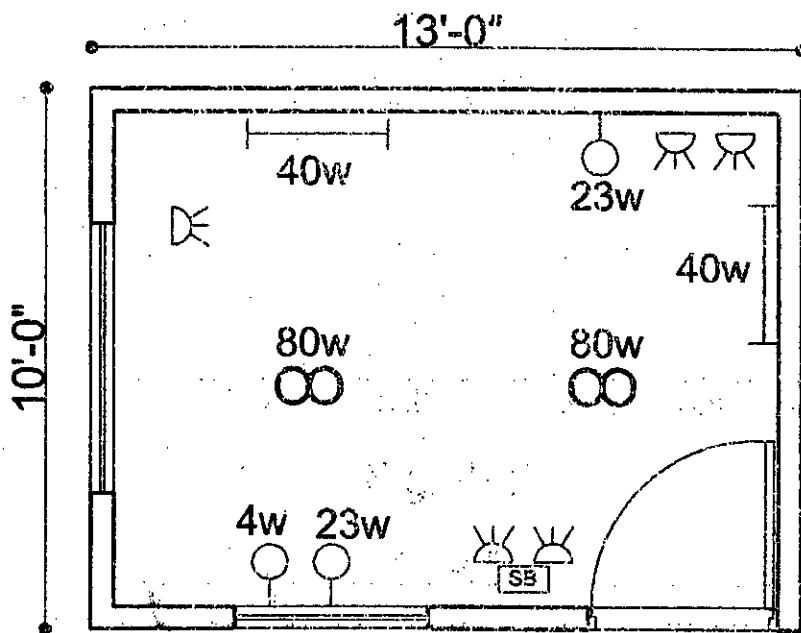

Figure 7 (C): Electrical Installation Plan of a Bedroom
c) The electrical installation plan of a bedroom is given in Fig. 7(c). Draw the conduit run and electrical wiring diagram for both light circuit and power circuit of this plan. 15